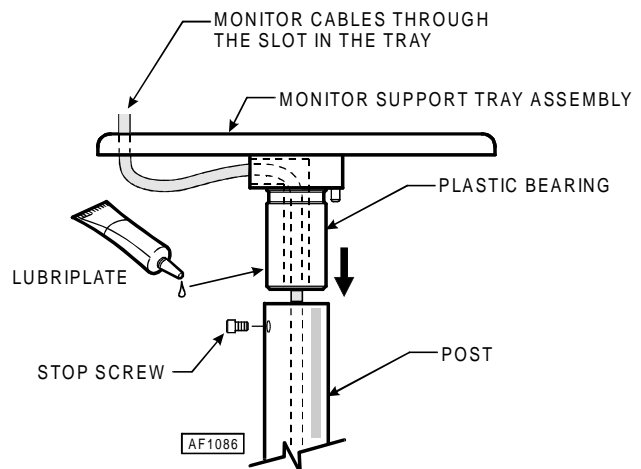

Figure 3
3. Apply a few drops of lubriplate to the end of the plastic bearing (See Figure 3).